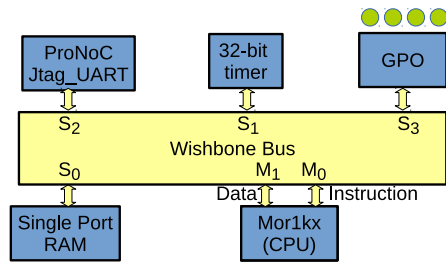

Figure 5.1: The schematic of desired SoC in this tutorial.
**Schematic** Figure 5.1 illustrates the desired hardware architecture in this tutorial. This architecture consists of:
7. A Clock source (not shown in Figure 5.1).
2. In parameter setting set `M` (master interfaces number) as 2 and `S` (slave interfaces number) as 4. These values are obtained from Figure 5.1. You can change them later if you want to add/remove any IPs.